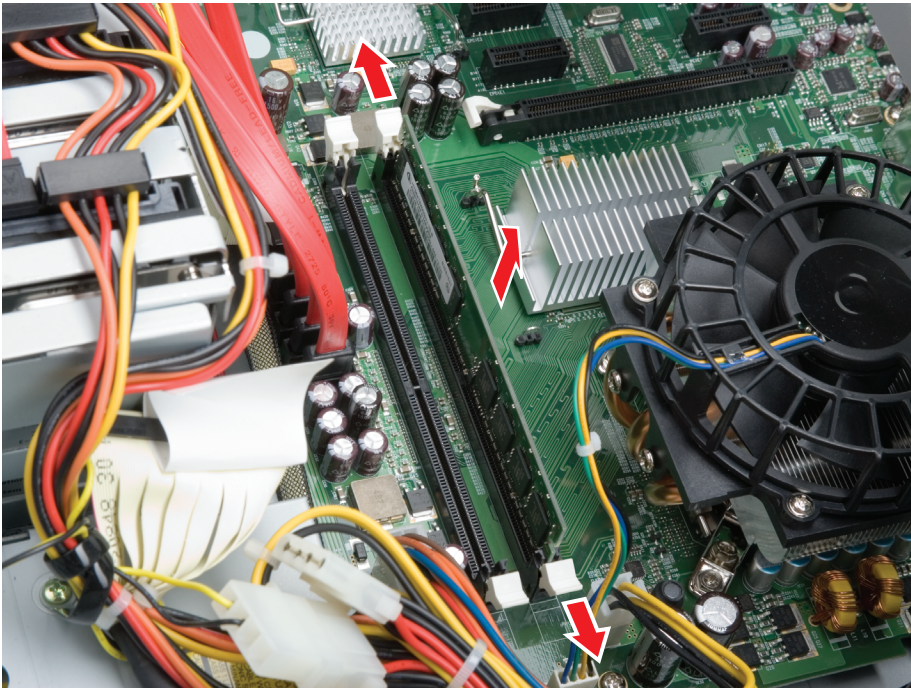

Figure 7. First Empty DIMM Socket
2. Locate the empty DIMM socket. This socket is directly adjacent to the socket containing the existing DIMM module. Refer to Figure 7.